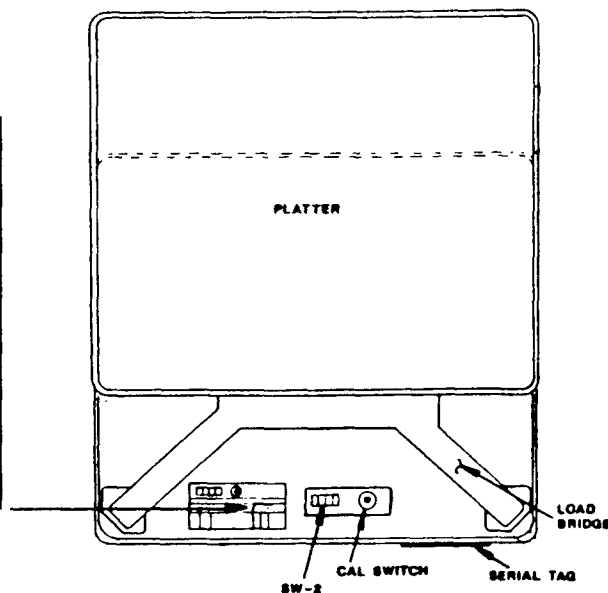

FIGURE 8: FUNCTION CODE CHART
4. Locate SW-2 and CAL switches inside the calibration port. Refer to Figure 8, or to the Function Chart located adjacent to the calibration port.